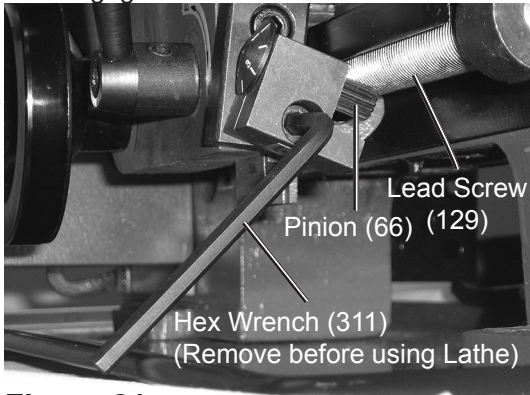

Figure 21
- b. Use the 5mm Hex Wrench (part of 311) to loosen the Plate (303) and the Threading Dial Body (68).
- c. Rotate both pieces so the Pinion (66) on the back side of the Threading Dial Body makes contact with the Lead Screw (129) ("Dial Engaged" in Figure 21, bottom photo).
- e. To dis-engage the Threading Dial Body when not in use, loosen the Plate and rotate the Dial away from the Lead Screw (129), then retighten the Plate.